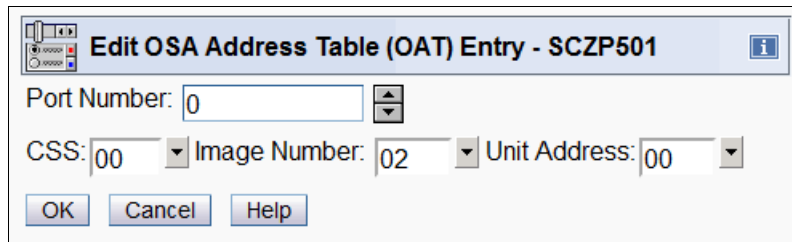

Figure 14-8 OSA/SF on HMC: Edit as SNA entry panel
- If you select **Edit as SNA Entry**, the OSA Address Table (OAT) Entry panel shown in Figure 14-8 opens. Select the appropriate SNA entry here and click **OK**.